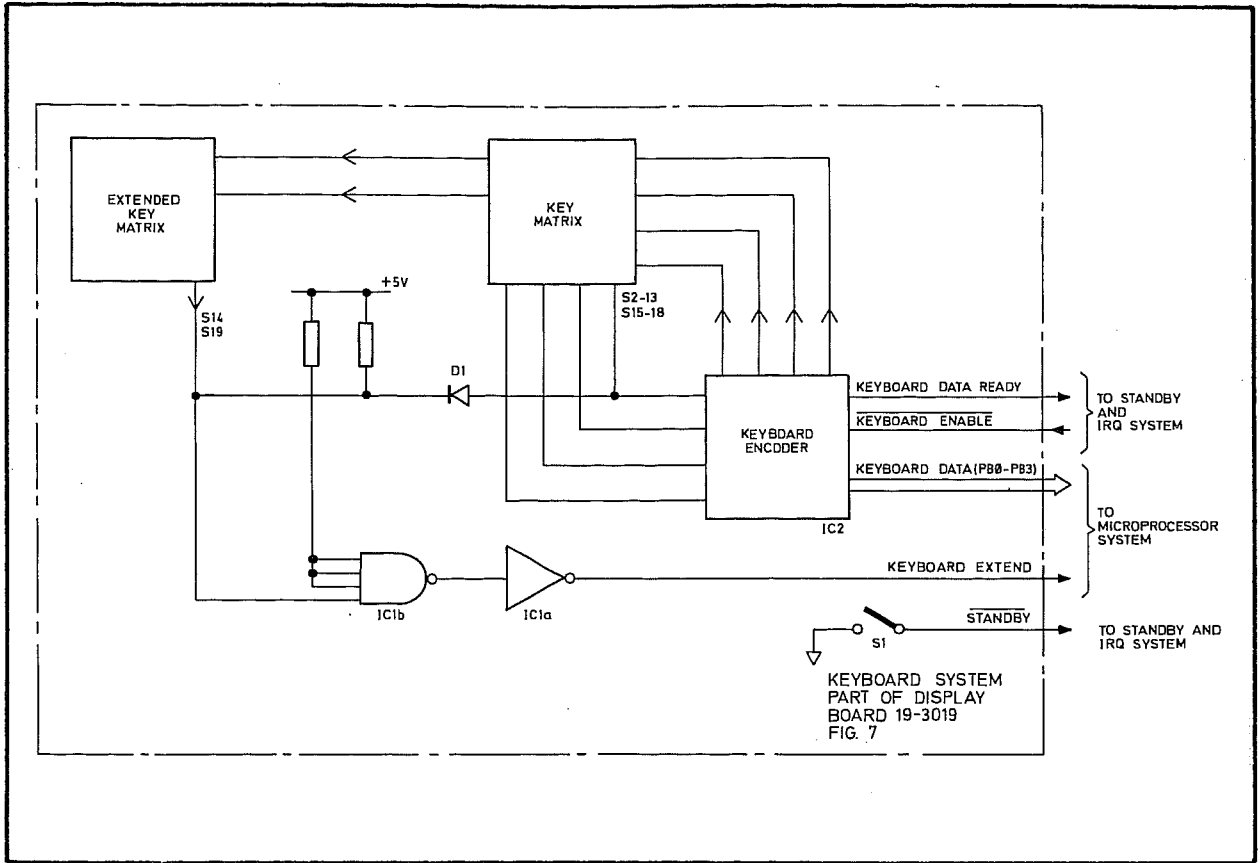

Fig. 6.12 The Keyboard System
- 112 A block diagram of the keyboard system is shown in Fig. 6.12. Encoding of the keyboard data is performed within the system without microprocessor action. An interrupt request (IRQ) is made on the KEYBOARD DATA ready line, to the microprocessor when encoding is complete. Data transfer is initiated by the KEYBOARD ENABLE active low signal from the microprocessor.